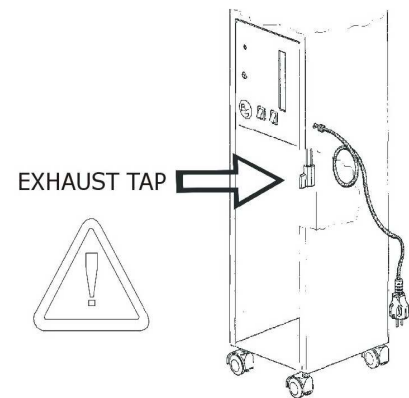

Fig. 7
N.B.: make sure the exhaust tap of the boiler is closed (fig. 7).
Unscrew the valve plug and turn the exhaust tap (fig. 7), wait for all the water to come out and then turn it off again. The tap might gel clogged: in this case, use a wire with a diameter of 3-4 mm or similar and introduce it into the tube in order to unclog it.